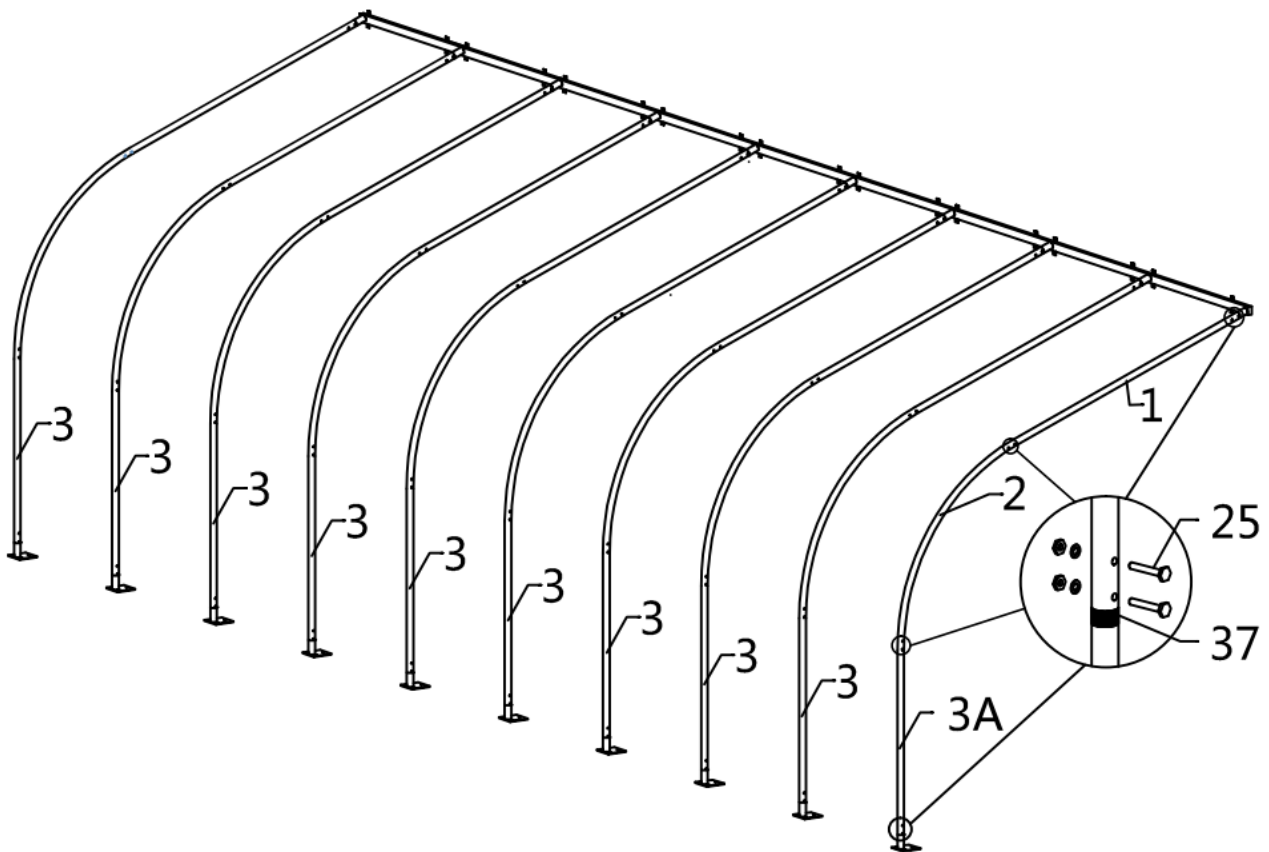

Figure 4
- After installing the screws of the trusses, handle the pipe head interface : seal the interface with adhesive tape (#37) and truss installation method (refer to figure 4).
- Assemble all trusses and fix the trusses on the baseboard. The installation effect drawing of all trusses (refer to figure 4).
- (1) Adhesive tape (#37)